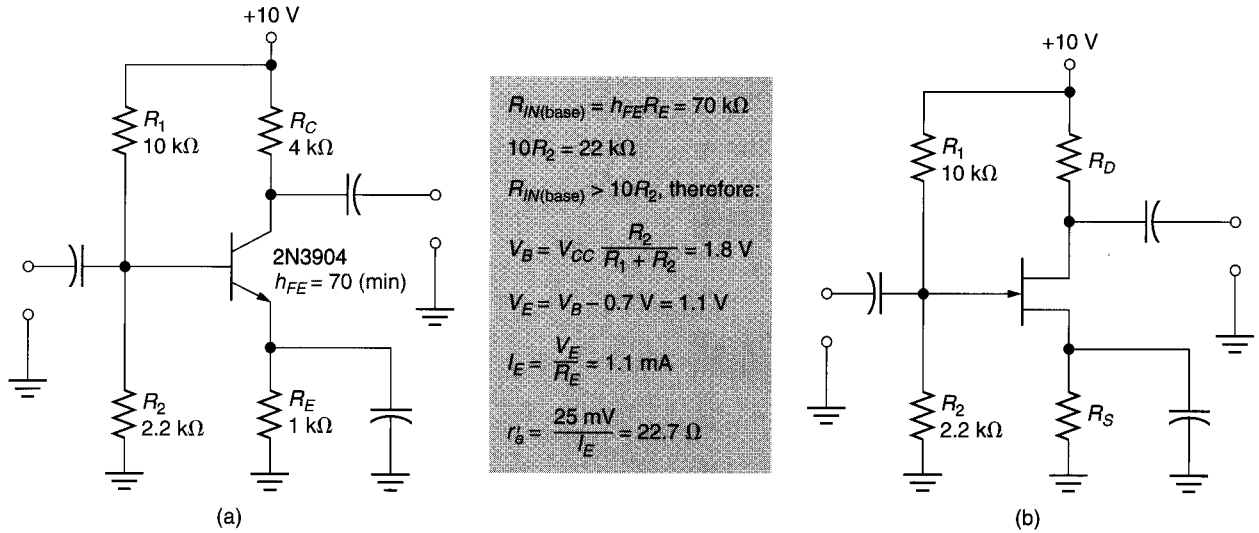

FIGURE 12.39
Determine the values of  $Z_{in}$  for the amplifiers shown in Figure 12.39.
**Solution:** Figure 12.39 shows the calculations for the BJT amplifier up to the determination of  $r'_e$ . The geometric average of  $h_{fe}$  for the 2N3904 is 200 at  $I_C = 1$  mA. Using the values shown, the input impedance to the BJT amplifier is found as